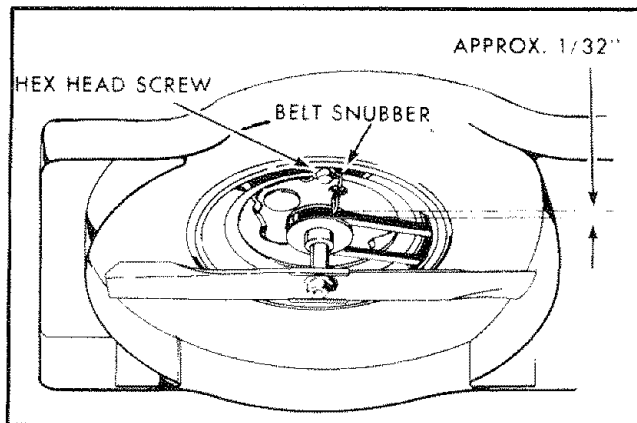

FIG. 21
4. Loosen hex head screw holding belt snubber in place and move belt snubber away from pulley (See Fig. 21).
7. Move belt snubber back in place, approximately 1/32" away from belt and tighten hex head screw (See Fig. 21).